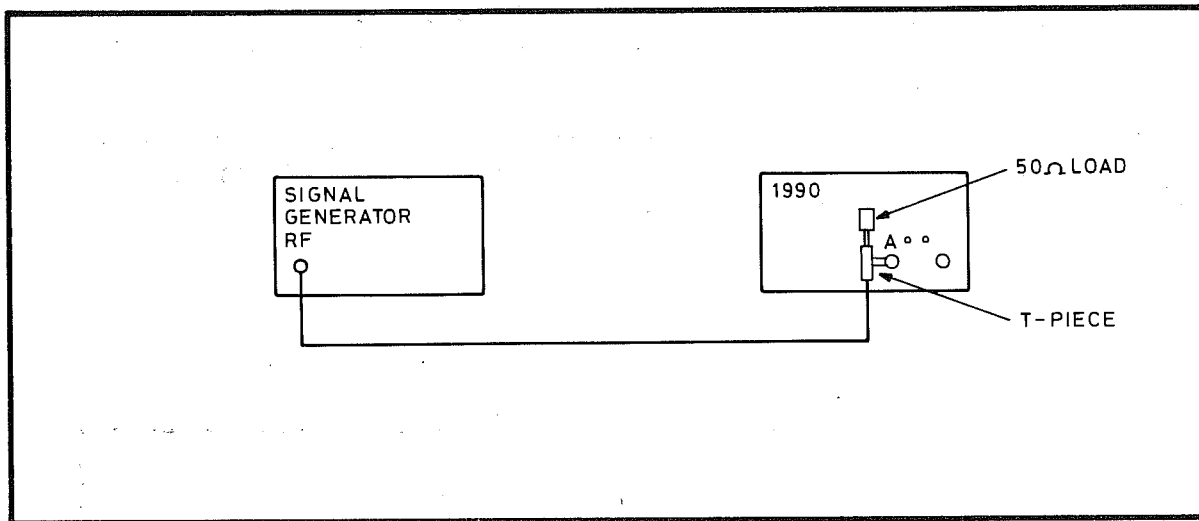

Fig 7.21 Connections for Attenuator PVP
58 (1) Ensure that both trigger level controls are switched to 0 V. Select 6 digits resolution on the 1990, and connect the test equipment as shown in Fig 7.21.